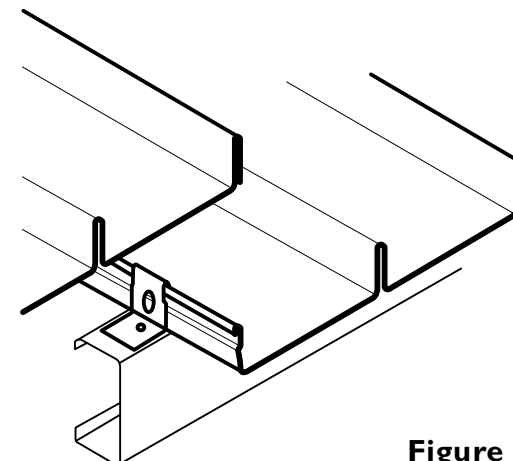
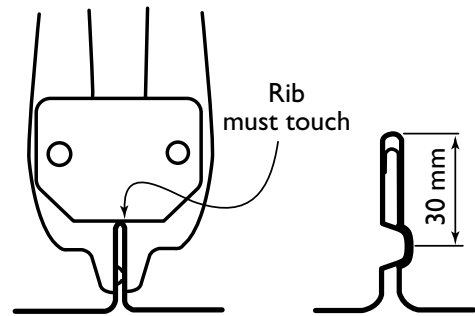

Figure 4
Figure 5
2. Place top fixing clips over each flattened rib and fix to the purlins (Figure 4). With a felt-tipped pen, make a small mark in the pan to enable you to locate the clips in the later locking operation with the button punch (Figure 5).
3. Place the next sheet over the edge of the preceding sheet (Figure 4).
All lapped ribs must be locked along their length, by button-punching at no greater than 900mm centres (Figure 5).